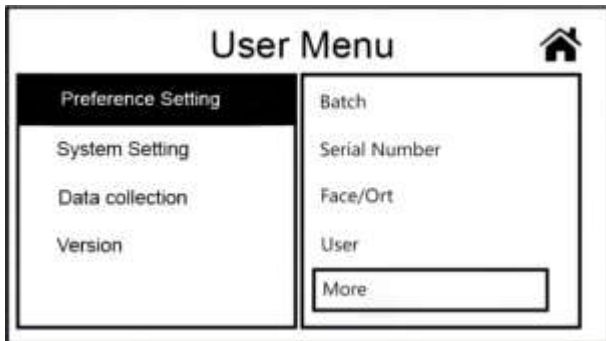
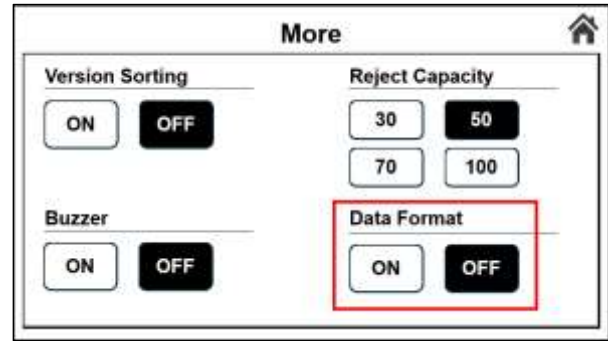

Figure 86
Figure 87
2) Touch the “Menu” key to enter the “User Menu” interface, as shown in Figure 86. Users can set the switch of data format function in this interface, ON means the data format function is turned on, OFF means the data format function is turned off. This function is off by default, after selecting it, the shadow will change from gray to blue, as in Figure 87, and the machine can save the setting automatically. Touch the “” key on the upper right corner of the screen or press the “” key to return to the previous interface.